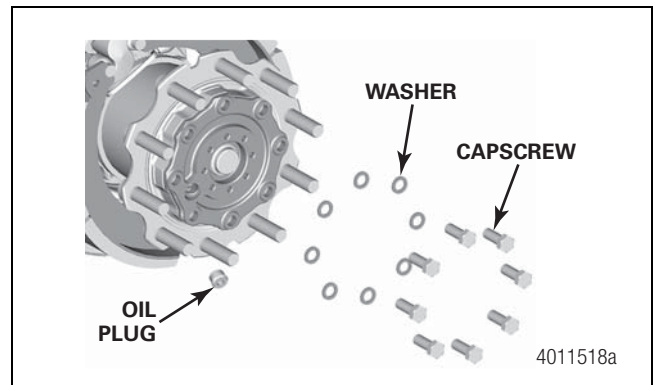

Figure 7.22
3. Install the drive flange onto the hub and fasten with washers and capscrews. Figure 7.22. Tighten the capscrews to 180-230 lb-ft (244-312 N•m). **ⓘ**